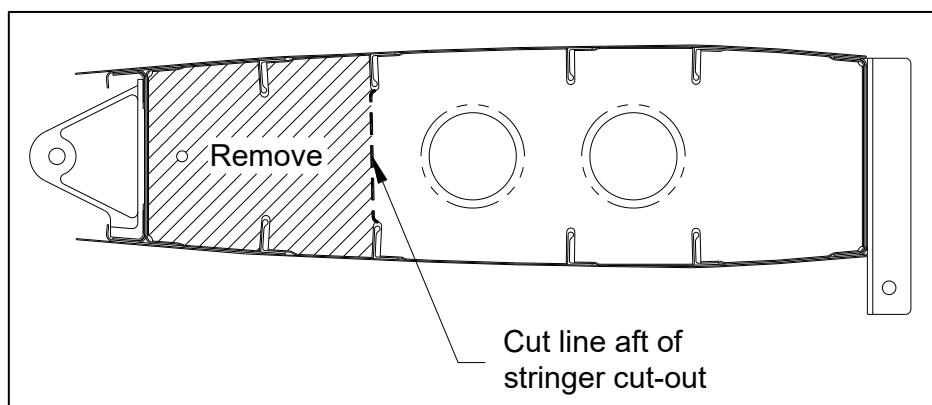

Figure 4: Inboard Rib Modification
- 13.4.2 Cut and remove aft section of both inboard ribs at the point indicated by the dotted line in Figure 4. De-burr and finish all blended edges with a Scotch-Brite® pad, rotary polishing tool or similar to achieve a surface finish of at least 125 microinch Ra (3.2 micron Ra). Apply Primer (Item C1 of Table 5) to the cut edge.